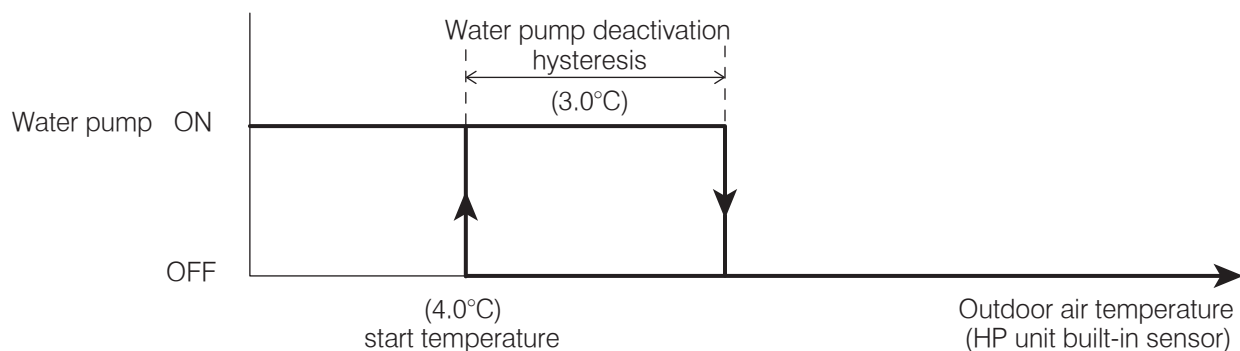

Figure 8-18: Frost protection (outdoor air temperature) - water pump
- Outdoor air temperature - refer to Section 8.4.1 and Figure 8-18.